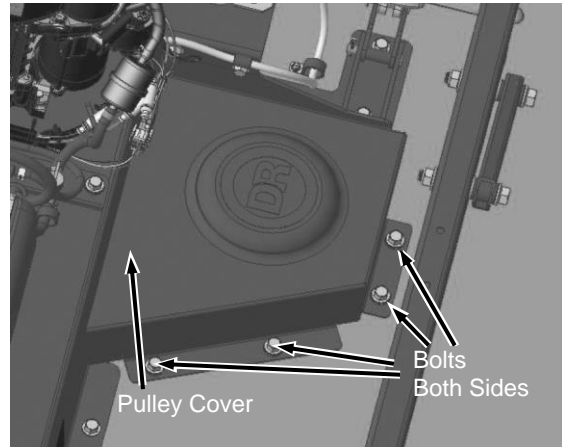

Figure 52
3. Remove eight bolts securing both Pulley Covers using a 9/16 in Wrench (**Figure 52**).
11. Reinstall both sides of Pulley Covers (**Figure 52**).